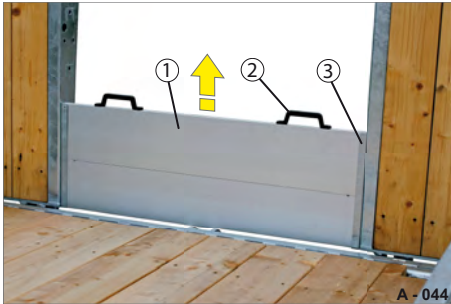

Fig. 46 Slot-in platform gate overview
- ▶ Fully pull the slot-in platform gate (Fig. 46/1) by the two handles (Fig. 46/2) simultaneously out of the slot-in rails (Fig. 46/3).
- ▶ Slot the slot-in platform gate simultaneously into the left and right slot-in rails (Fig. 46/3).